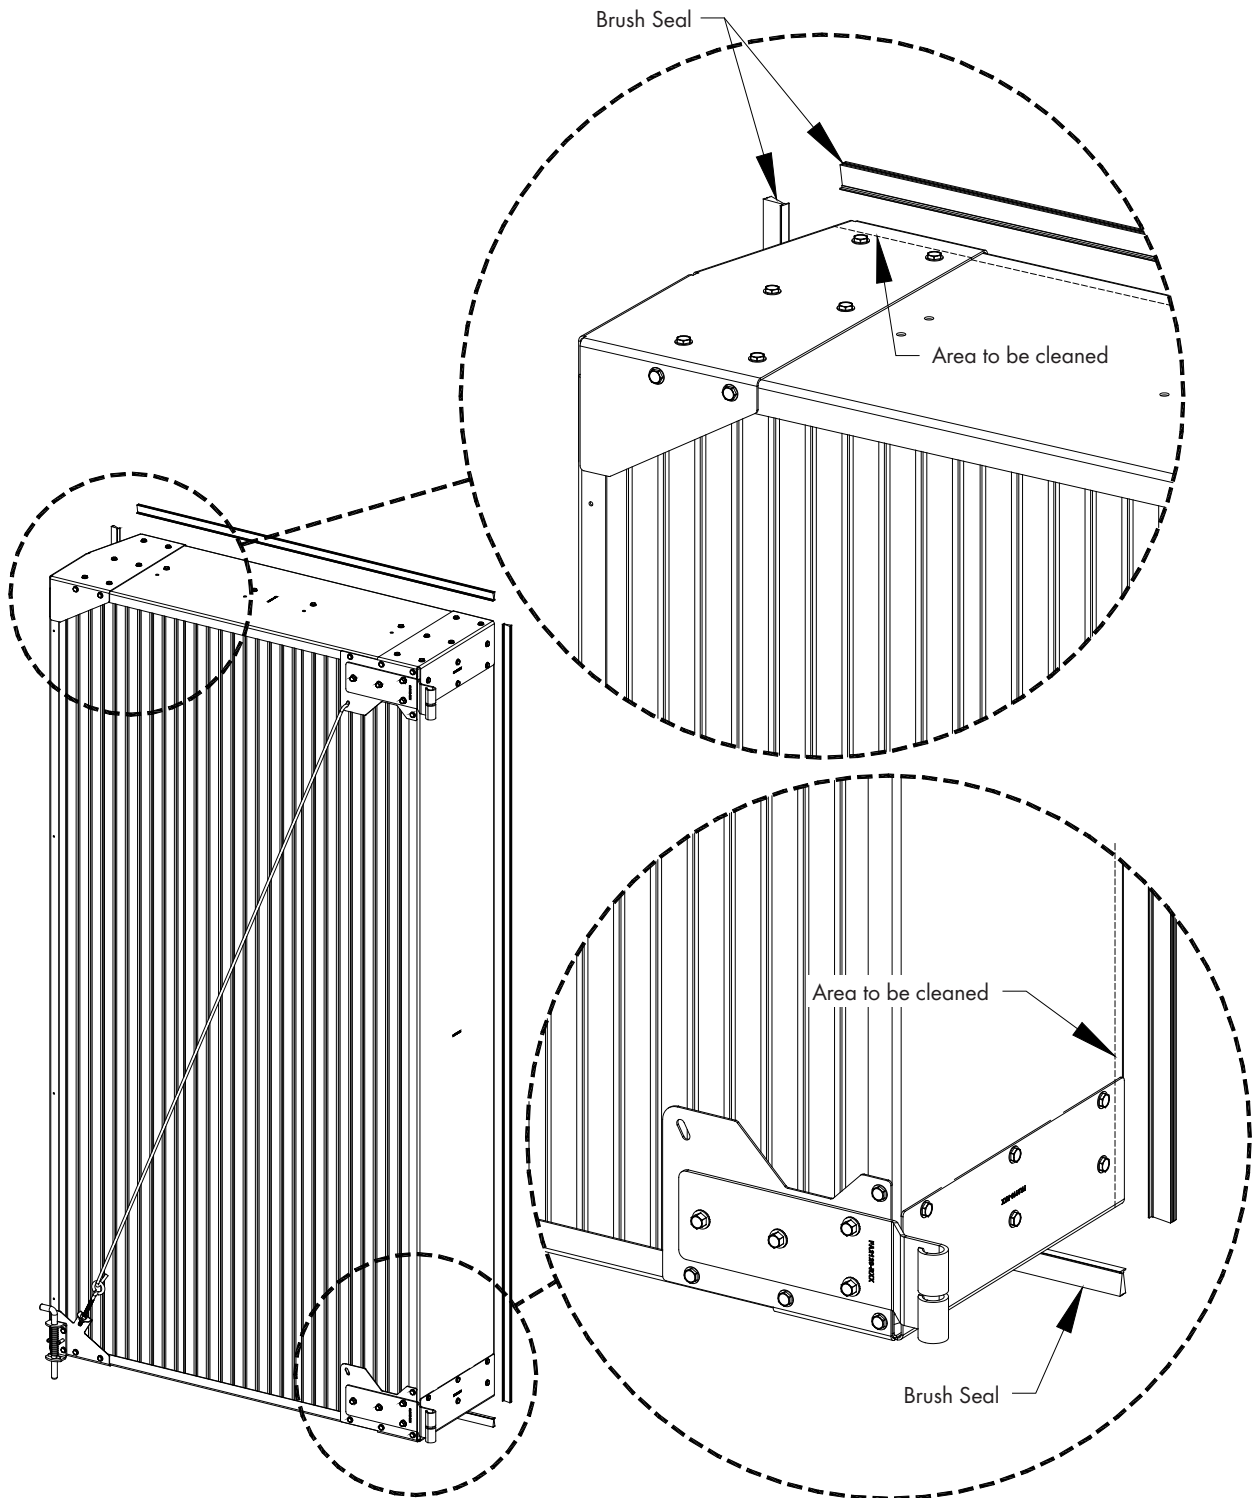

Figure 22
Clean a 1" strip of the galvanized panels and corner brackets on all 4 sides, along the edge of the door opposite the Leaf Hinge and Spring Latch. Cut the roll of Brush Seal into 4 pieces, (2) at 36¼"L. and (2) at 72½"L., then peel the backing off of the Brush Seal and carefully stick them to the 4 sides of the door where they were cleaned. *See Figure 22.*